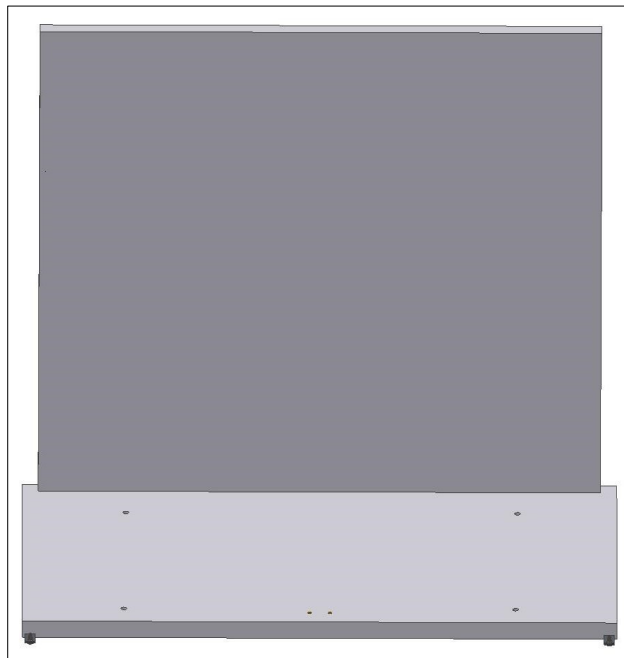

Fig. 3
- Fix the **back panel** to the panel of the bottom and fasten (Fig.3);